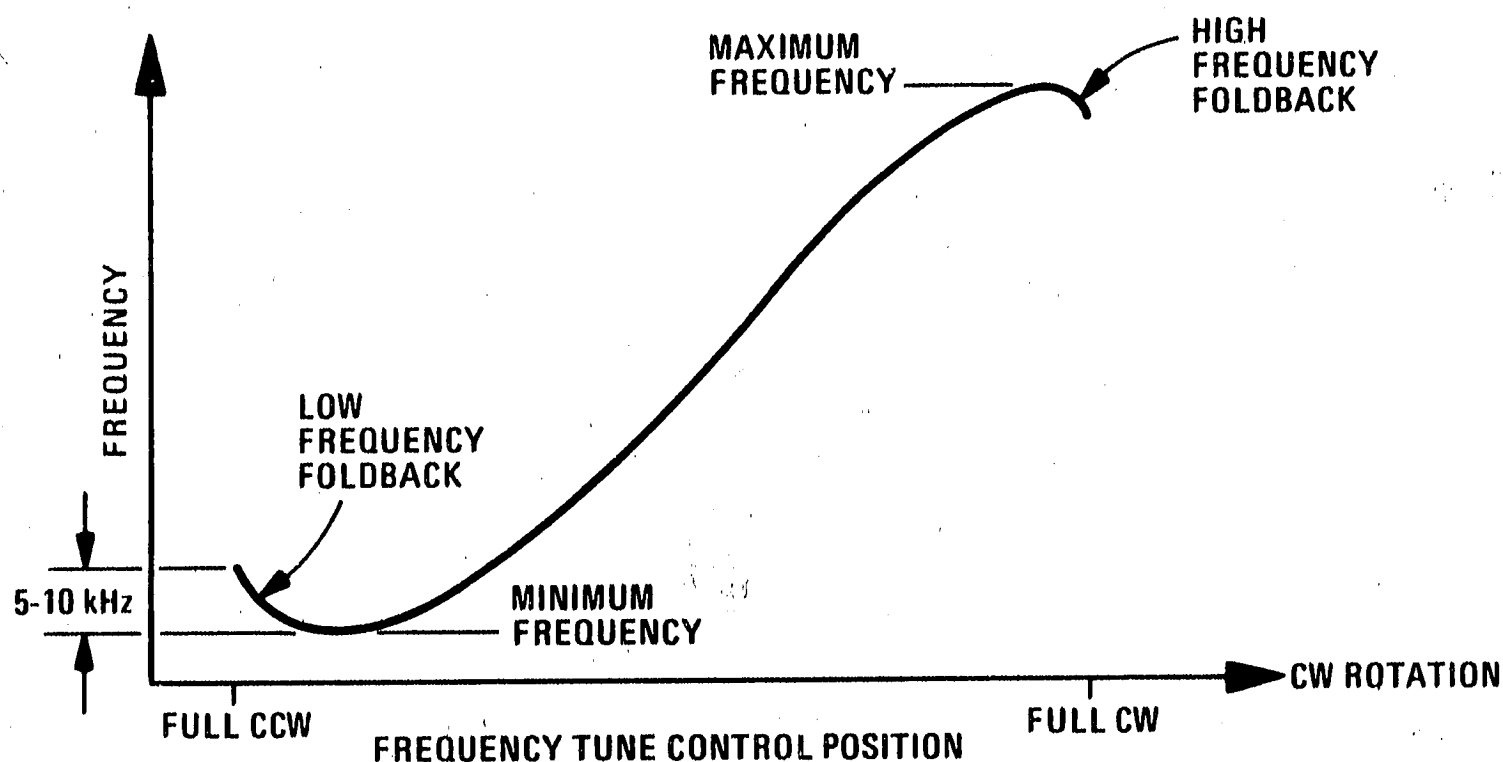

Figure 5-4. Proper Capacitor Tuning Characteristics
DESCRIPTION: The position of the capacitor pulley on the capacitor shaft is set for the full tuning range of the capacitor as the frequency is tuned from stop to stop. The pulley is correctly adjusted when the frequency can be tuned through minimum at the low frequency end of the dial and through the maximum at the high end (refer to Figure 5-4).
5. Insert a non-metallic tuning tool into the slotted end of the tuning capacitor shaft (C3) and adjust the low frequency foldback as read on the counter, from 5 to 10 kHz beyond the frequency minimum. The frequency will be approximately 9.5 MHz and the capacitor blades will be almost fully meshed (refer to Figure 5-4).